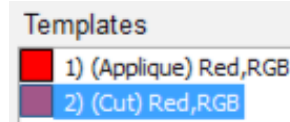

Fig. 22
15. In the *Export to Cutter* dialog **select only the Cut portion of the design** (See Fig. 22).